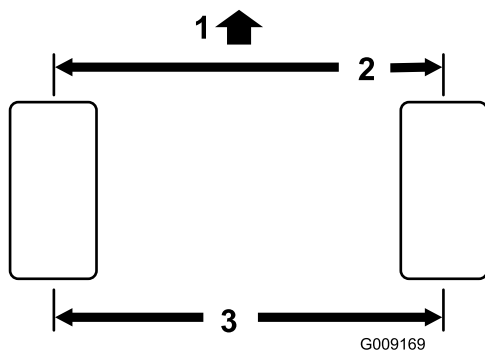

Figure 47
2. Measure the center-to-center distance (at axle height) at the front and rear of the steering tires (Figure 47). The measurement must be within 0 ± 3 mm (0 ± 0.12 inch) at the front of the tire then at the rear of the tire. Rotate the tire 90 degrees and recheck the measurement.